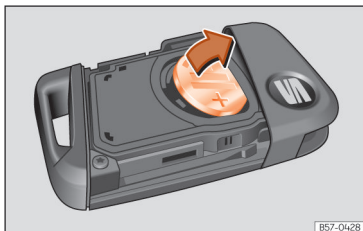

Fig. 50 Vehicle key: removing the battery.
- Lever the battery out of its compartment >>> Fig. 50.
- Fit a new button battery into the compartment >>> ①.